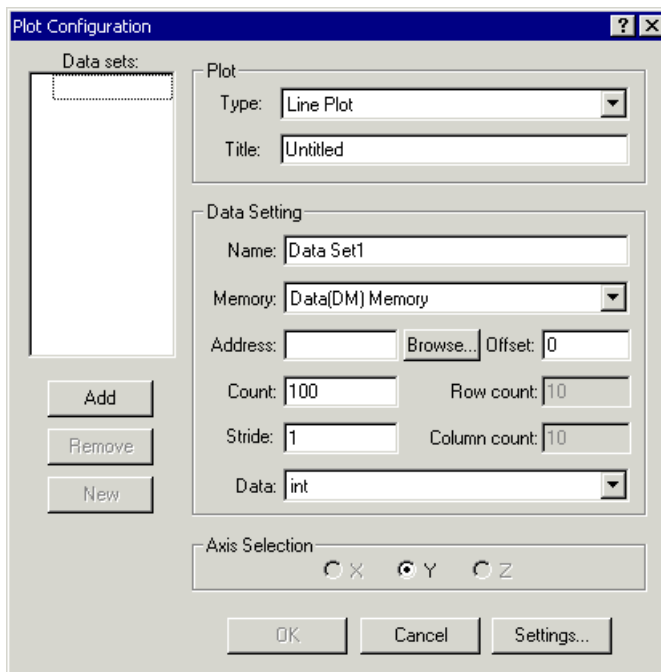

Figure 3-25. Plot Configuration Dialog Box: Specifying Data Sets to Be Plotted
1. From the **View** menu, choose **Debug Windows** and **Plot**. Then choose **New** to open the **Plot Configuration** dialog box, shown in Figure 3-25.